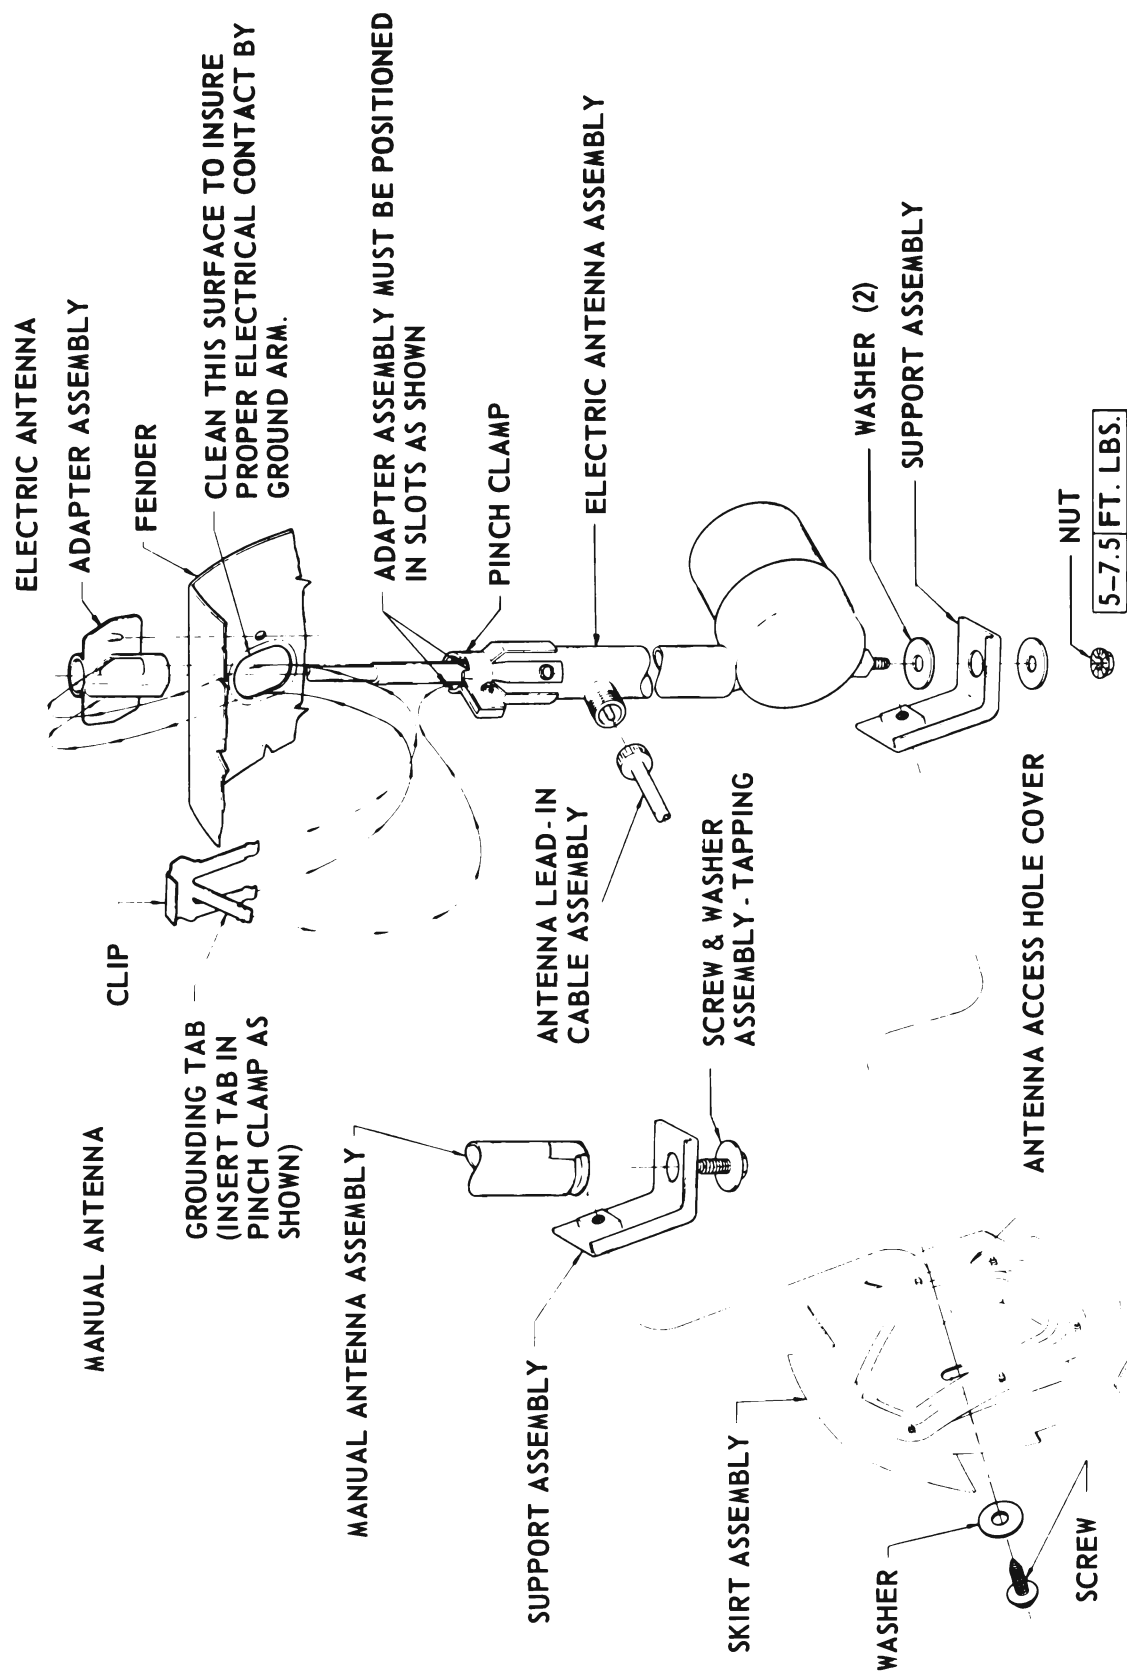

Figure 11-9—Manual and Electric Antenna Installation - 49000 Series
1. Turn front wheels full right and remove antenna access hole cover from right fender outer skirt (see Figure 11-9).
the adapter assembly and pinch clamp (see Figure 11-9).